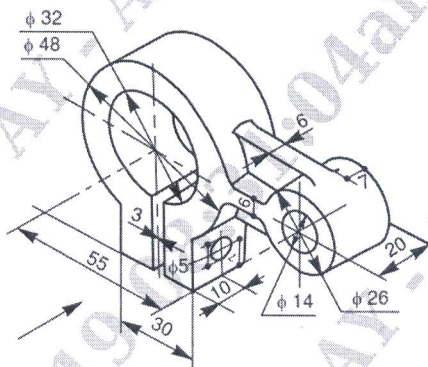

Fig. 1: Depth stop
2. Draw (i) the view from the front, (ii) sectional view from above and (iii) the view from the right of a depth stop shown in Fig. 1. **(20 Marks)**